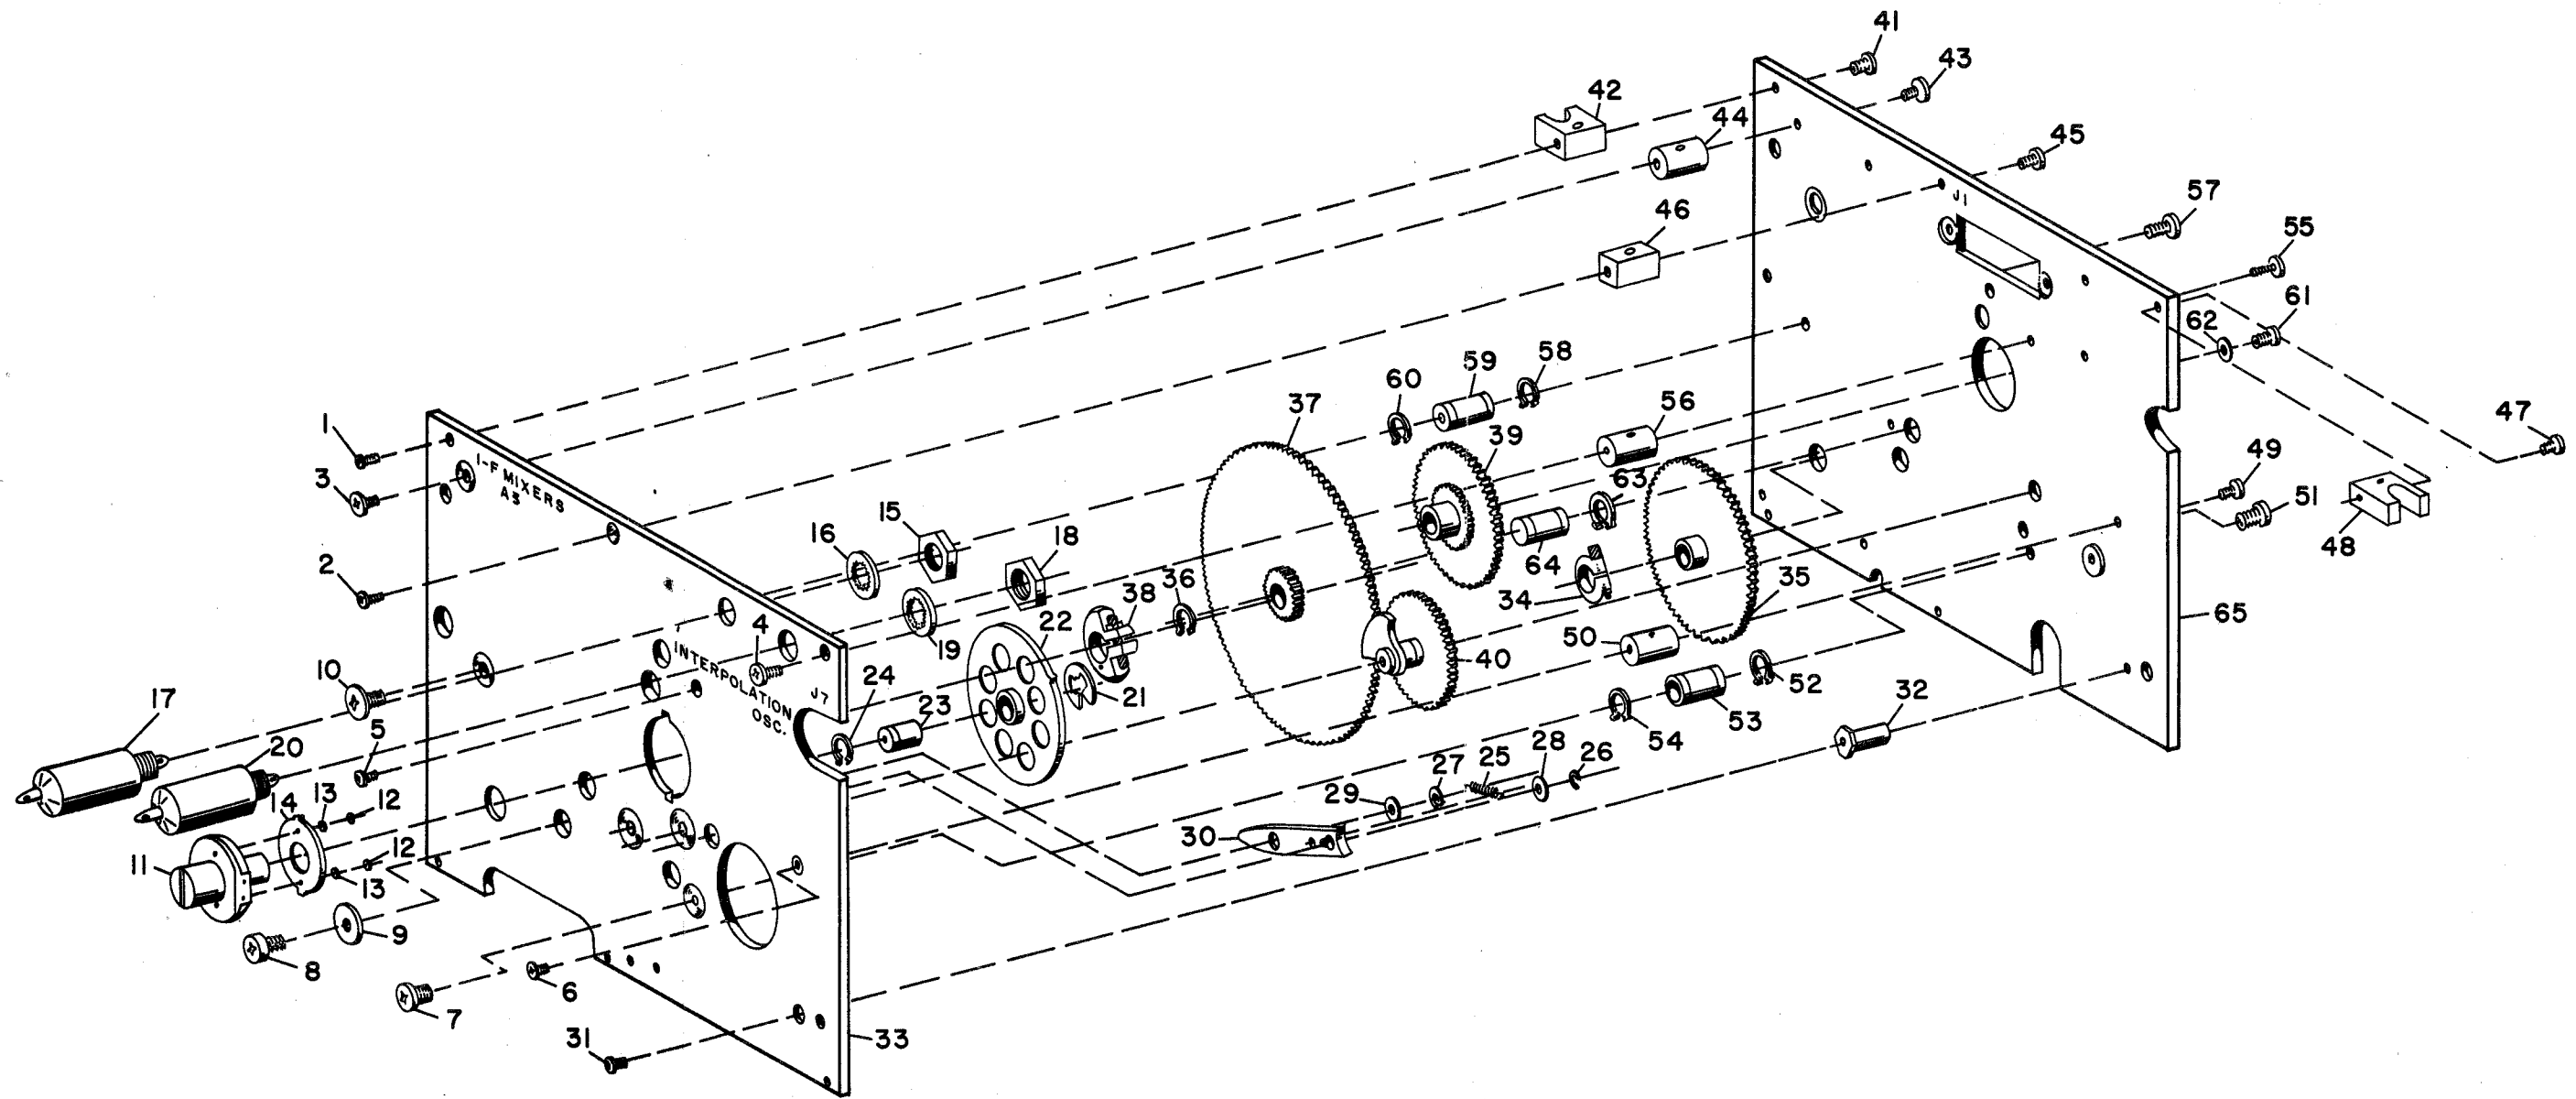

Figure 6-3. Stabilized Master Oscillator
a. SMO GEAR ASSEMBLY - Refer to table 5-13 and paragraph 5-3d. for inspection of gears. Refer to figure 6-3 and assembly gear train as follows:
(1) Place retaining ring (63) on post (64).